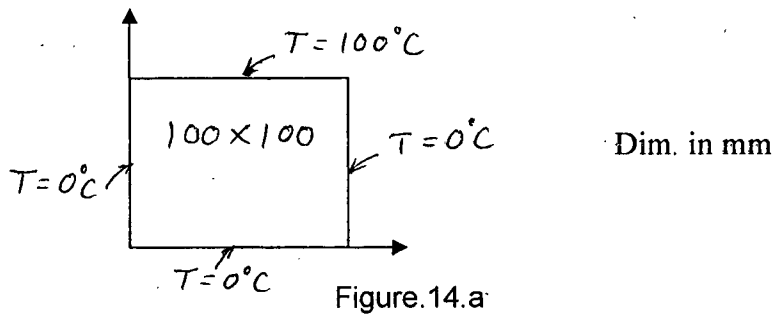

Figure.14.a
14.a Derive the assembled stiffness matrix for the domain given in figure 14.a taking advantage of symmetry and triangular elements. 16